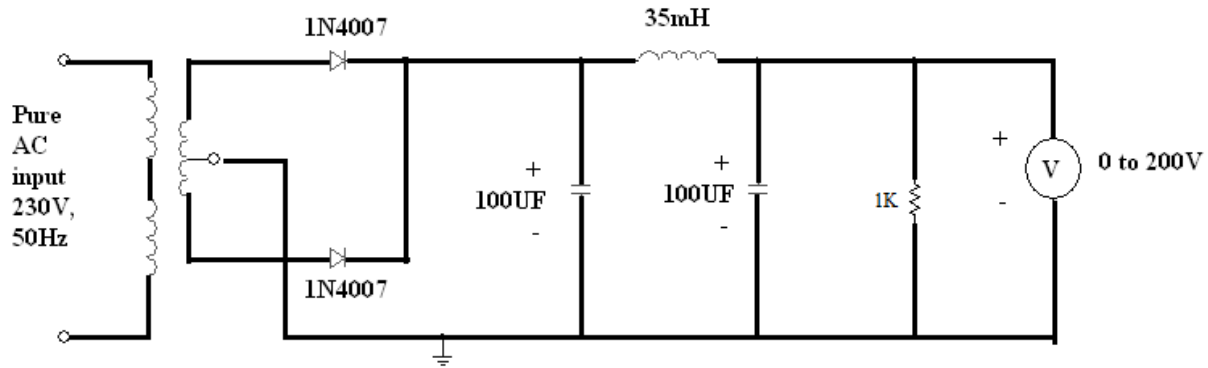

Fig. 2: Full wave rectifier with π -section filter
1. Connect the circuit as shown in the fig.2.